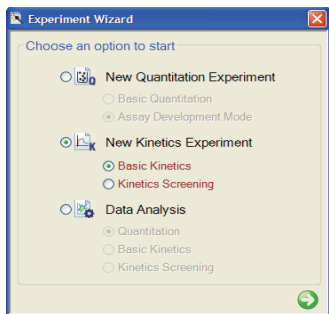

Figure 5.1 Experiment Wizard
1. In the Experiment Wizard, choose the **New Kinetics Experiment** and **Basic Kinetics** options (Figure 5.1).